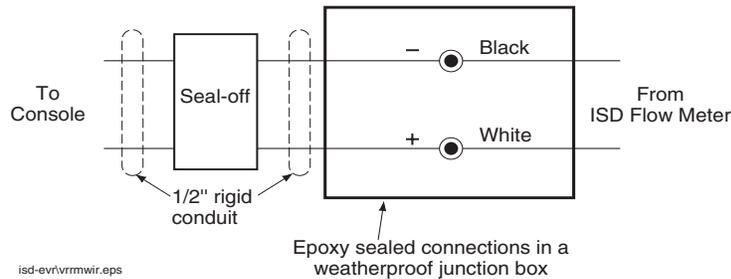

Figure 18-2. Field wiring Vapor Flow Meter - Observe Polarity
| Figure 18-2. Field wiring Vapor Flow Meter - Observe Polarity | 18-6 |
14. Connect the wires from the Vapor Flow Meter to the field wiring from the console and cap with wire nuts (see Figure 18-2).
9. Route the wiring into the junction box via the supplied cord grip assembly. Connect the wires from the Vapor Flow Meter to the field wiring from the console and cap with wire nuts (see Figure 18-2).